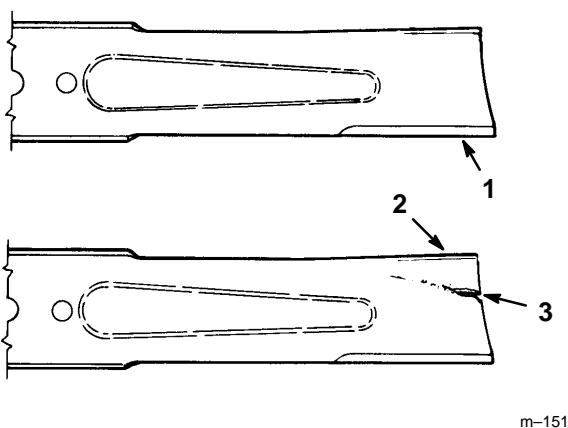

Figure 8
1. Inspect the cutting edges (Fig 8). If the edges are not sharp or have nicks, remove and sharpen the blades. Refer to Sharpening the Blades on page 10.
2. Inspect the blades, especially the curved area (Fig. 8). If you notice any damage, wear, or a slot forming in this area (item 3 in Fig. 8), immediately install a new blade.